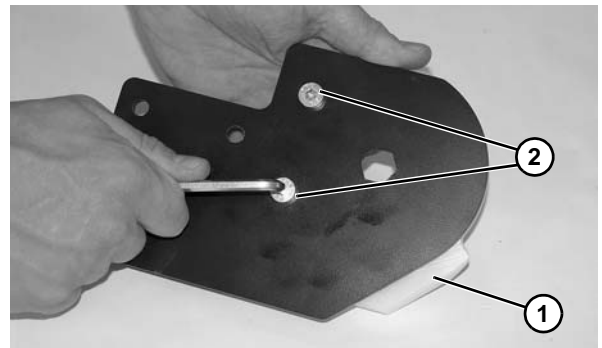

Figure 62
6. Check idler terminal assembly (**Figure 62, item 1**) for wear. If worn, remove two low head cap screws (**Figure 62, item 2**) and replace.